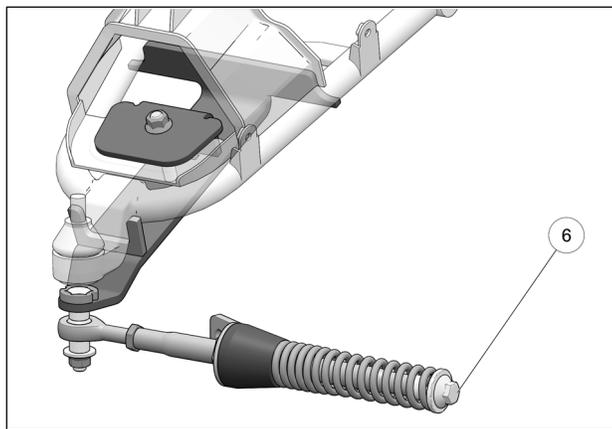

Fig. 18
9. Make sure spring mounting bolt (6) is torqued to specification: 75 N•m [55 lb•ft]. Fig. 18